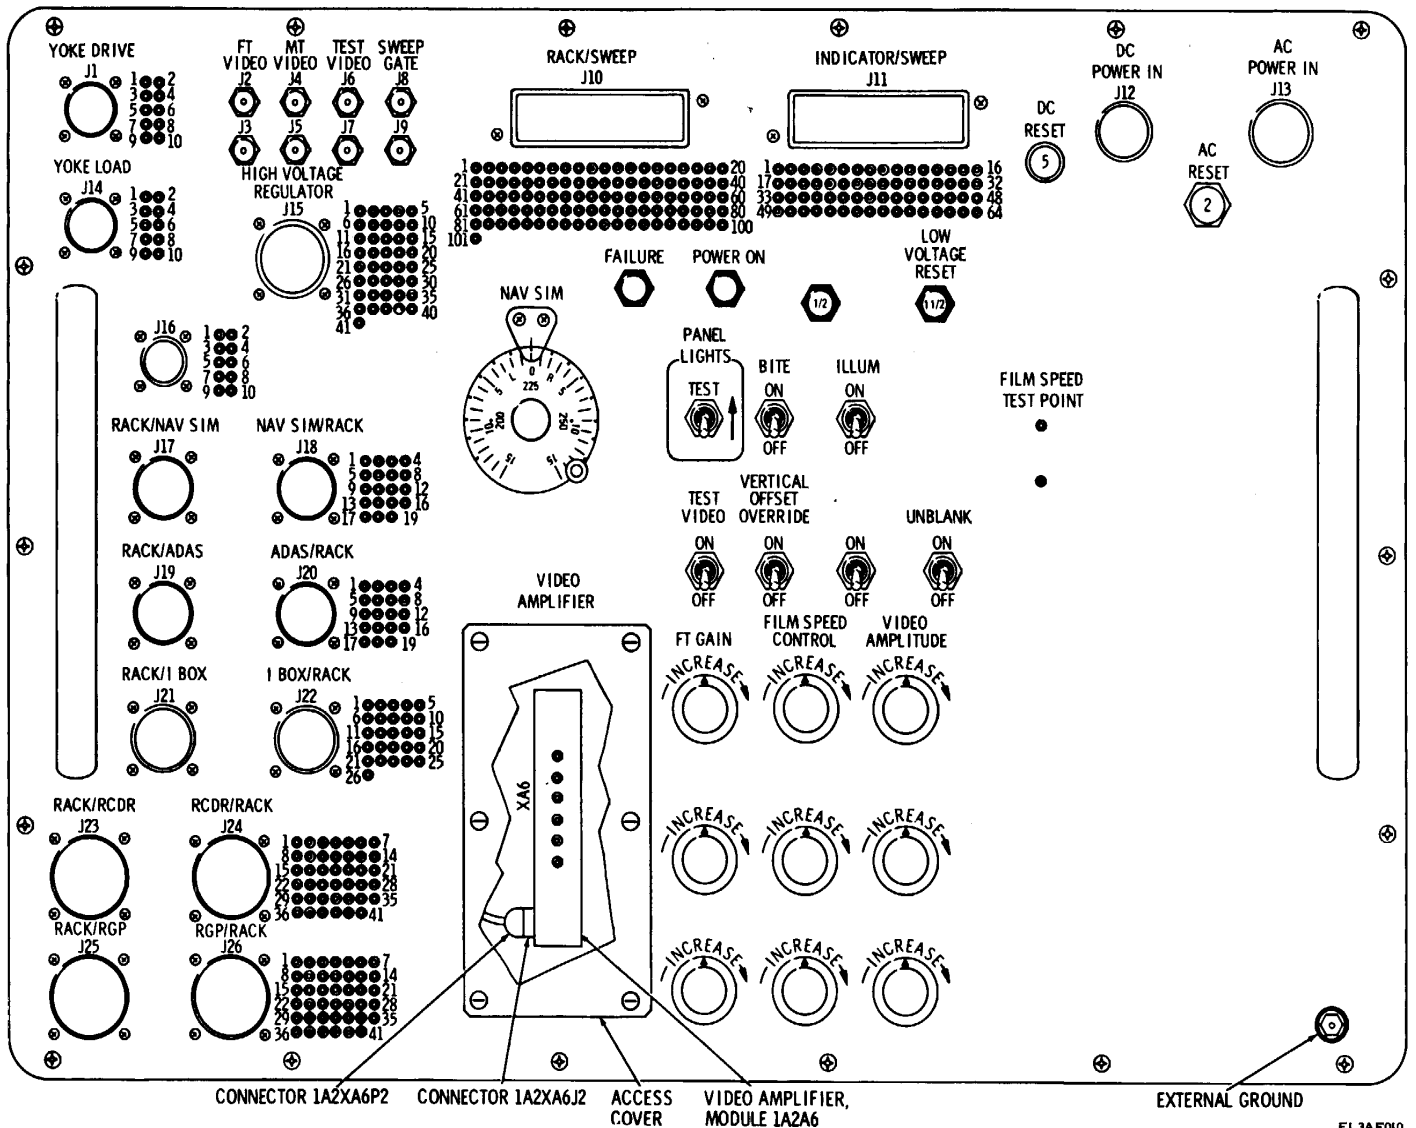

Figure 2-3. Test Set Subassembly MX-8638A/APS-94D (upper control panel) controls, indicators, and connectors.
b. Test Set Subassembly MX-8638A/APS-94D, Operating Controls, Indicators, and Connectors on Upper Panel. The controls, indicators, and connectors for the upper control panel are listed, along with functions, in table 2-2 and shown in figure 2-3.